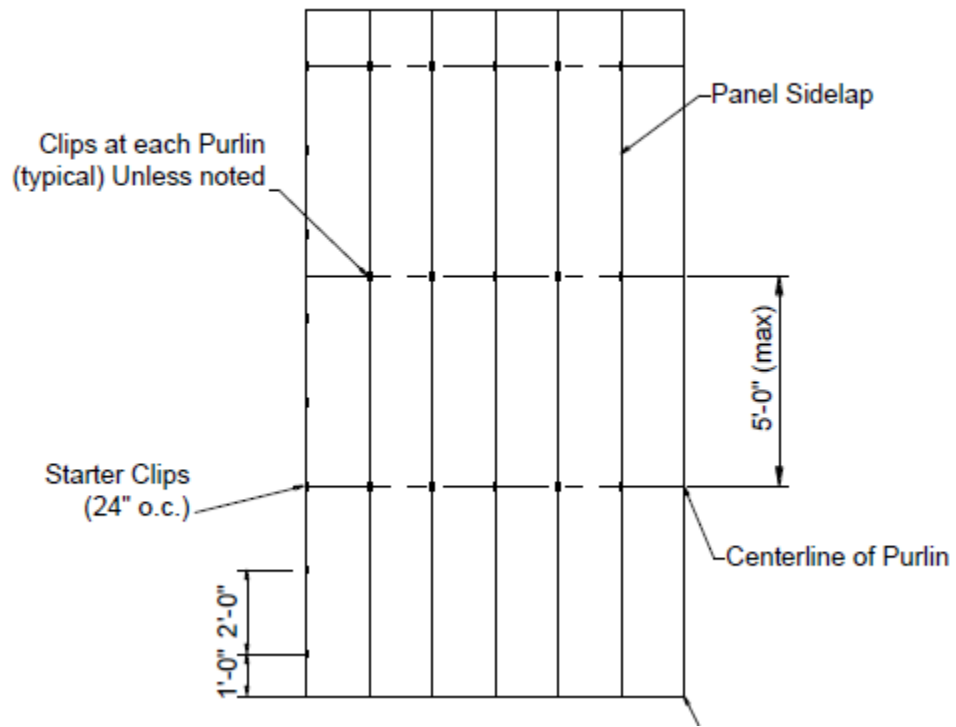

Figure 1. Minimum 24 Gauge Panel Craft 216 Panel Fastener Pattern
**Attachment of Metal Panels to the Steel Purlins:** The metal roof panels must be secured to the steel purlins with MC-1203 slider clips (4-5/16" long, 22-gauge top; 2-1/4", 16-gauge base; G-90 galvanized) with two (2) 1/4-14 x 1-1/4" HWH SD screws per clip. The fasteners must be long enough to ensure a minimum penetration of 3 pitches of thread below the steel purlin. Refer to Figure 1 in this evaluation report.